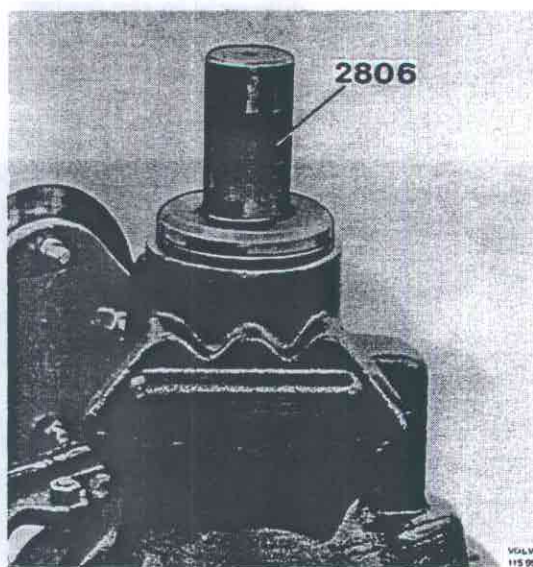

Fig. 46-70. Driving in the seal
19. Place the oil deflector plate on the front bearing. Fill 1/4 of the space between the lips with grease. See Fig. 46-69. Drive in a new seal with 2806, Fig. 46-70.